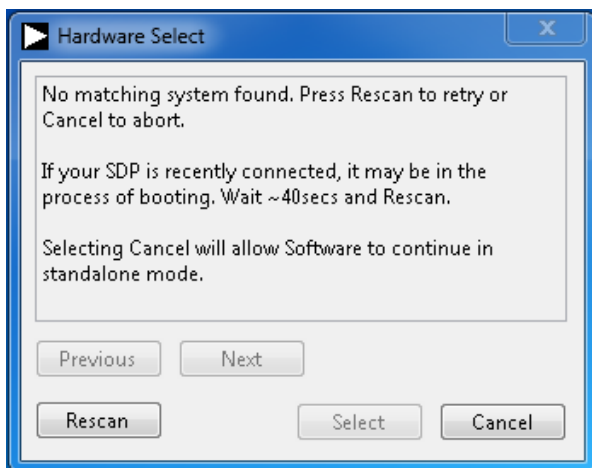
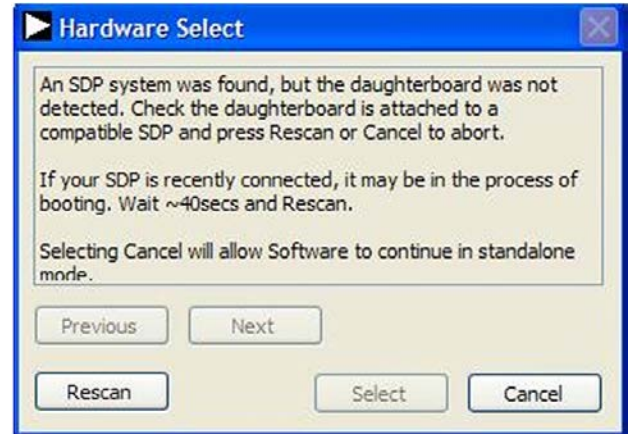

Figure 18. SDP Board Not Connected to the USB Port Pop-Up Window Error
Figure 19. EVAL-ADAQ7980SDZ Not Connected to the USB Port Pop-Up Window Error
2. The software then attempts to connect to the SDP board and the EVAL-ADAQ7980SDZ. If the SDP board is not found, an error window displays (see Figure 18). If the SDP board is found but the EVAL-ADAQ7980SDZ is not detected, a different error window displays (see Figure 19). If either connectivity error displays, ensure the hardware is properly connected to the USB port of the PC, wait a few seconds, click **Rescan**, and follow the instructions.
2. The software attempts to connect to the evaluation hardware. If the hardware is not found, either of the error messages in Figure 18 or Figure 19 display. To continue without hardware in standalone mode, click **Cancel**.